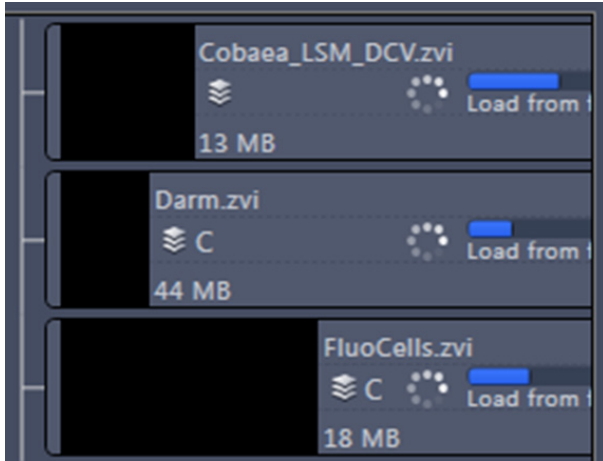

Fig. 767 Image progress bar
- A progress bar (Fig. 767) is shown for each image facilitating the overview if e.g. many processing functions are running at the same time.